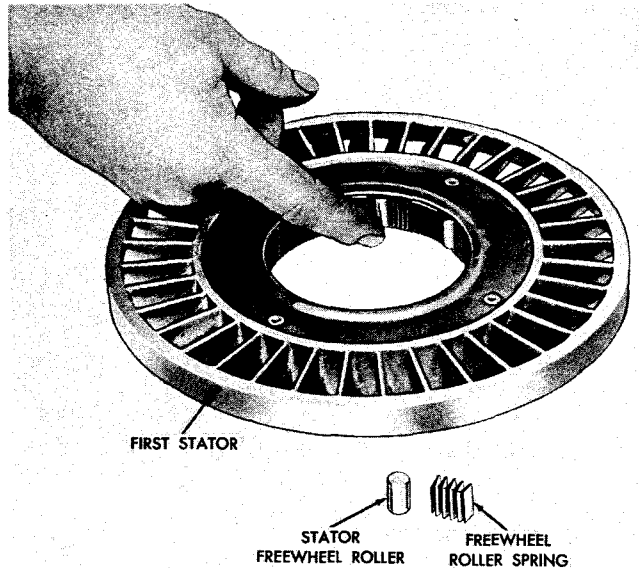

Fig VII-2. Installing stator rollers and springs in stator
(2) Place a roller in the shallowest part of a cam pocket. Place a spring in the deepest part of the cam pocket, making certain it is all the way back in the cam pocket (open ends of the spring when installed should be toward the bore in the stator). It might be necessary to hold the roller in position with a finger or the flat side of a small screw driver while pushing the spring into position (fig VII-2).